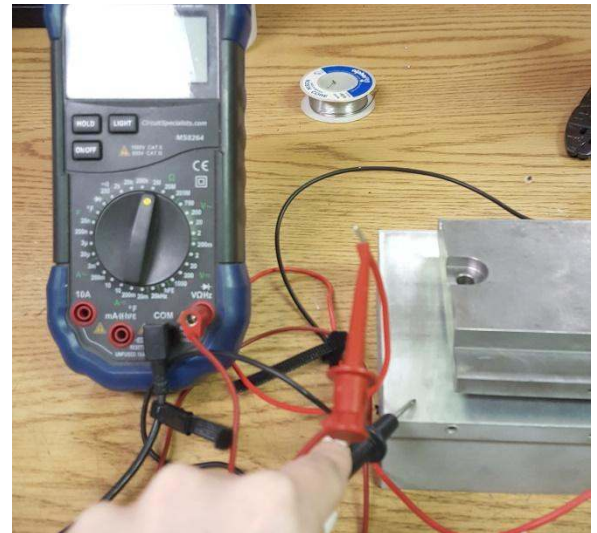

Figure 8: Testing for short circuits to ground
15. Measure the resistance between one of the module lead wires and the hot and cold plates, respectively. An example of this is shown in **Figure 8**. Repeat this process using the other lead wire. The resistance should be open circuit or a very high value. If you are not getting very high values, one or more of your surfaces is shorted to the heat exchangers indicating that it has been assembled incorrectly. Double check your work.